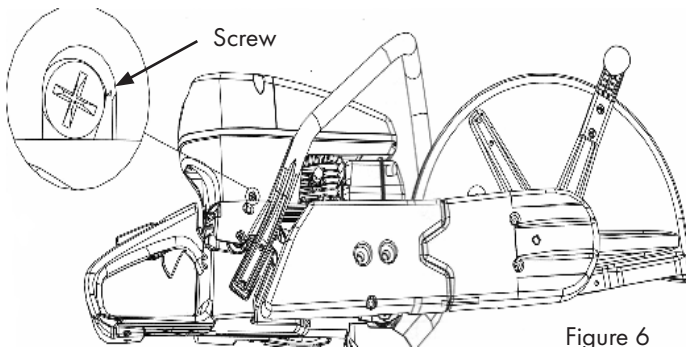

Figure 6
- Never cut with the segment shown in Figure 6.